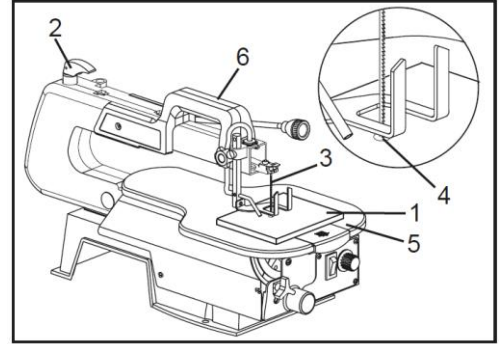

Fig. 13
**INTERIOR CUTTING (FIG. 13)**
1. Lay out the design on the workpiece (1). Drill a 1/8" (3 mm) hole (4) through the workpiece.
2. Remove the blade (3) by turning the quick tension release lever (2) counterclockwise.
**SAW TRANSPORTATION (FIG. 13)**